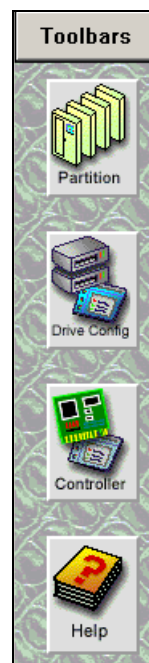

Figure 4-1
- ◆ Select the **Configuration** toolbar. The following buttons display (Figure 4-1).